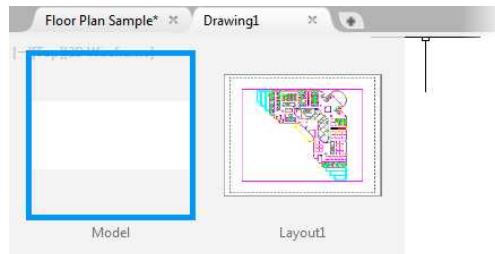

FIGURE 1.14: Using the File Tab interface to display a thumbnail preview of a drawing's content
3. Pausing your cursor over any tab will display the thumbnail preview of the associated drawing and its contents (see Figure 1.14). Click the thumbnail to navigate directly to that portion of the drawing file.